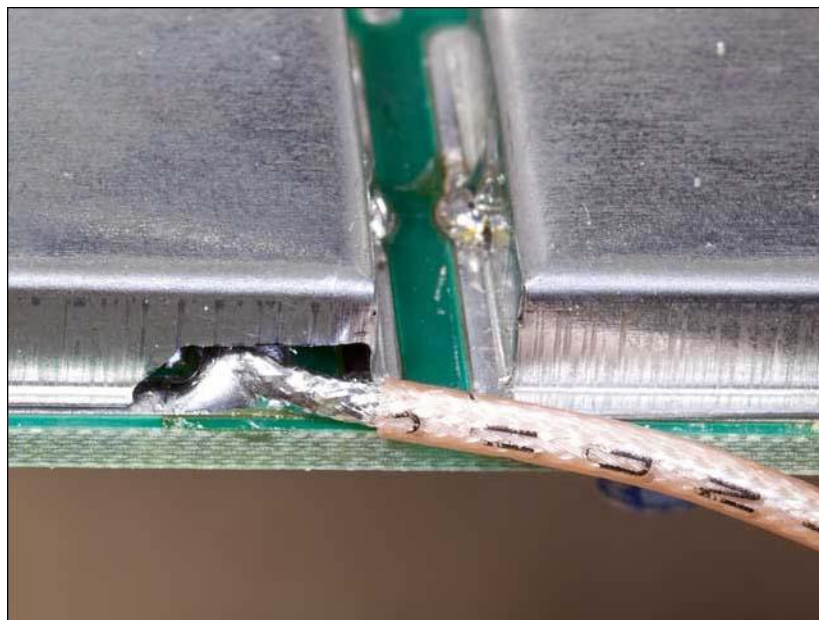

Figure 6: Coax Exiting Shield
10. The bottom edge of the shield must be carefully enlarged to accommodate the RG-178 coax (Figure 6). Reseat the shield and re-solder the two tabs. **(If you are not using an internal buffer amplifier proceed to Step 15.)**